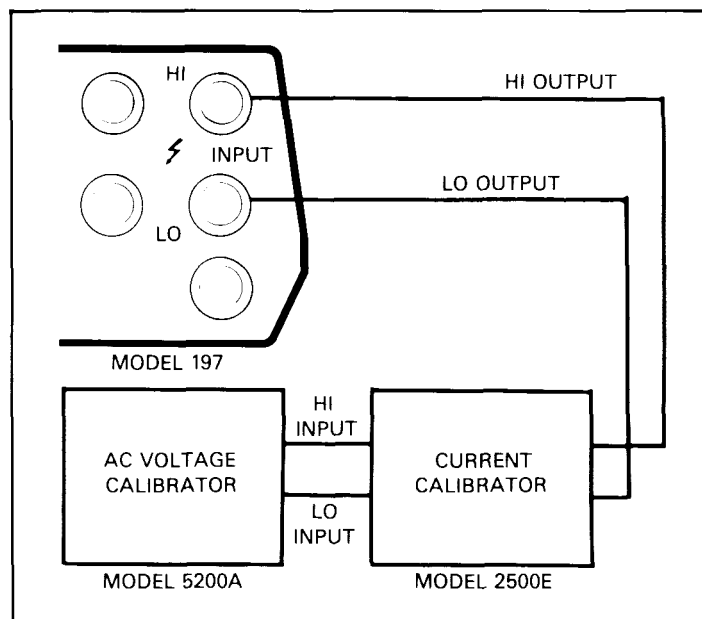

Figure 3-7. Connections for AC Current Verification (200 μ A to 2000mA)
2. Connect the AC calibrator to the Model 197 as shown in Figure 3-7. Set the calibrator frequency to 1kHz. Do not use the relative mode to zero the offset in the AC mode.